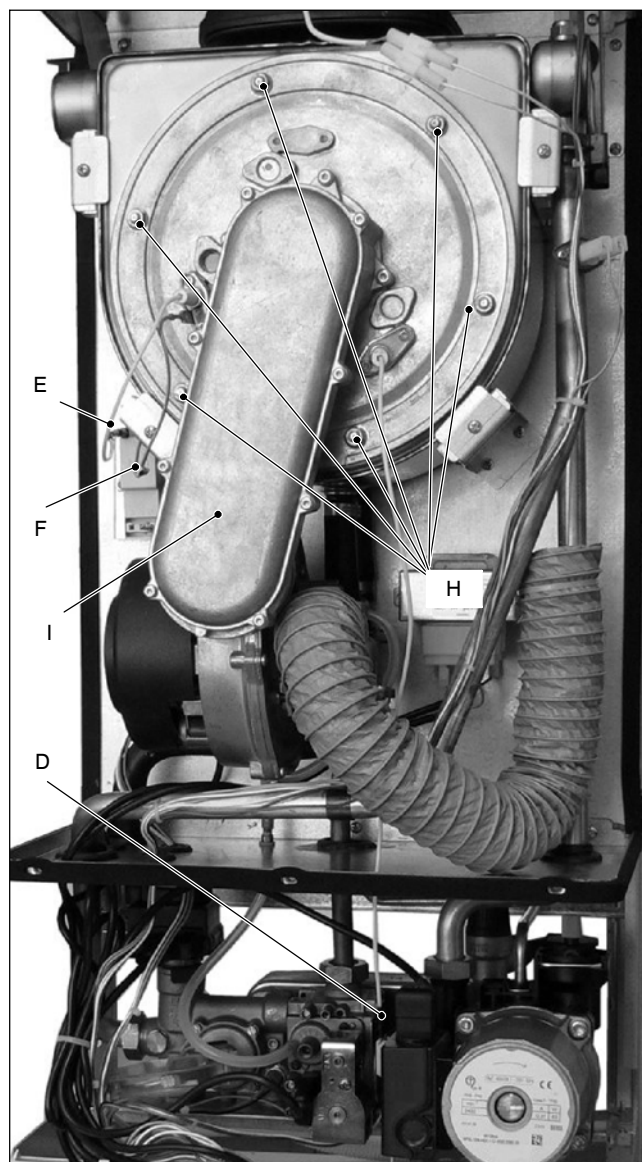

Fig. 5.2
- 5 Unscrew the nuts *H* (Fig. 5.2).